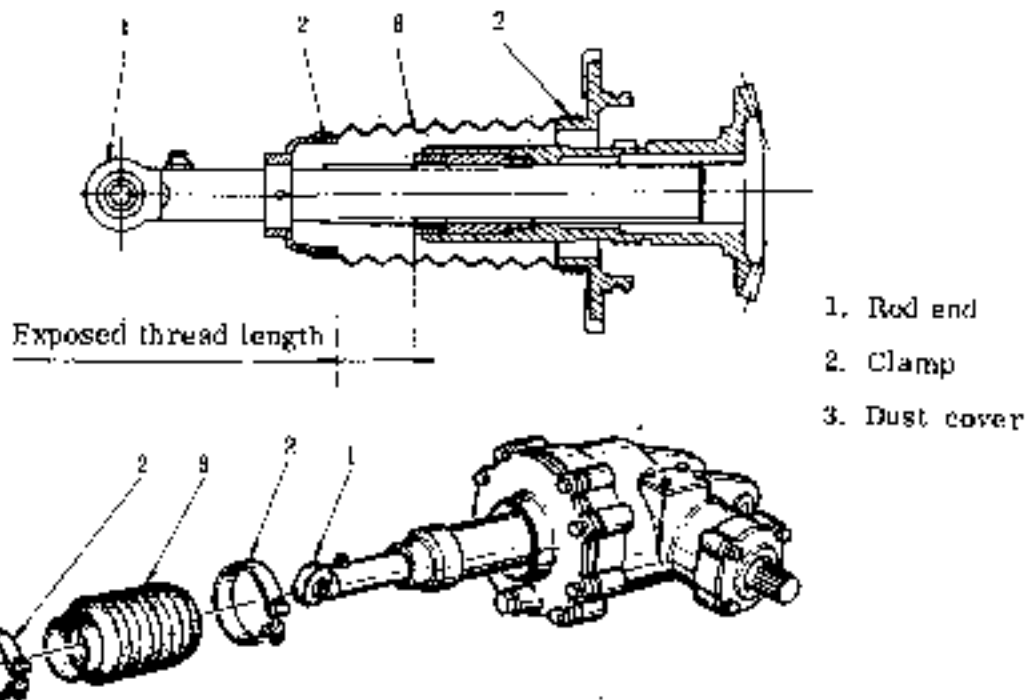

Fig. 4-44 Dust cover
- (b) Exposed thread length of nose gear jack screw (see Fig 4-44).
- (2) Remove attaching bolt of jack screw on rod end side per Para 2.2.
4.3.1 REMOVAL AND INSTALLATION (See Fig 4-44)